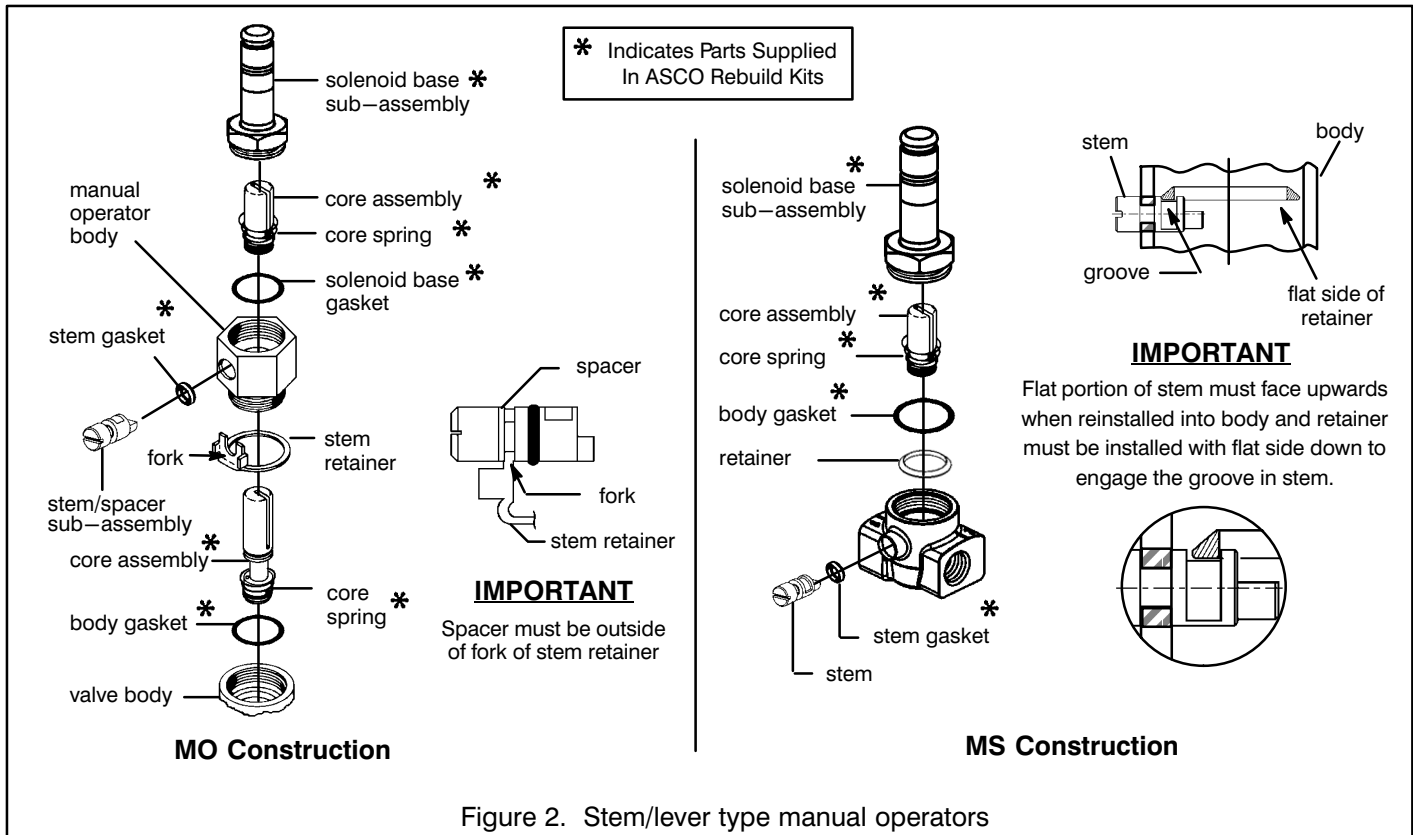

Figure 2. Stem/lever type manual operators
3. Unscrew solenoid base sub-assembly. Remove core assembly, core spring, and solenoid base gasket from valve body. For normal maintenance on Series 8263 valves it is not necessary to remove valve seat. See Figure 2 for manual operator construction.
### Disassembly and Reassembly of Stem /Lever Type Manual Operator (Refer to Figure 2)
**IMPORTANT: Flat portion of stem must face upwards when reinstalled into body and retainer must be installed with flat side down to engage the groove in stem. See Figure 2.**
**IMPORTANT: The spacer on the stem/spacer sub-assembly must be outside the stem retainer. See Figure 2.**